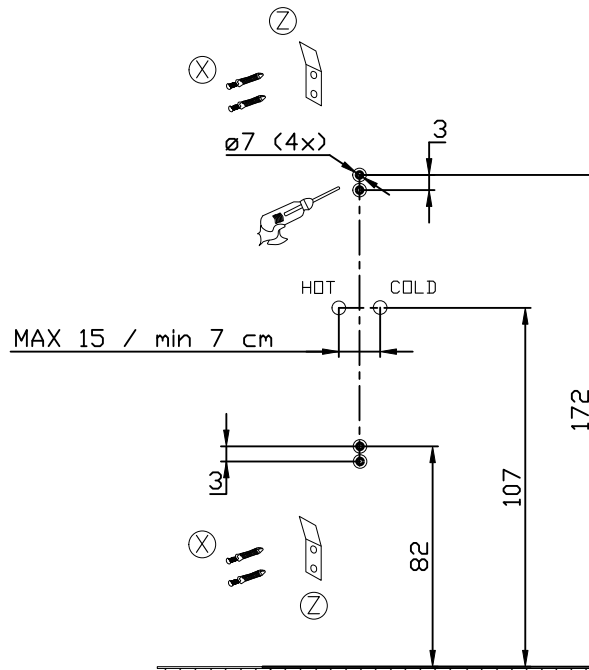

FIG.1
- 1- Fix the shower head (A) to the shower panel body with the screws (J) (6x)
- 2-Fix the hand shower holder (D) to the side of shower panel body.
- 3-Connect the 150 cm double locked S/S hose (C) to the hand shower holder (D)
- 4-Connect the 150 cm double locked S/S hose (C) to the hand shower (E) and hang it on (D).
- 5-Define the installation height(see fig.1): fix the wall braket (Z) using (X),connect the water supply to the shower panel faucet using the two 0,5 m hoses(B) (see fig.2).